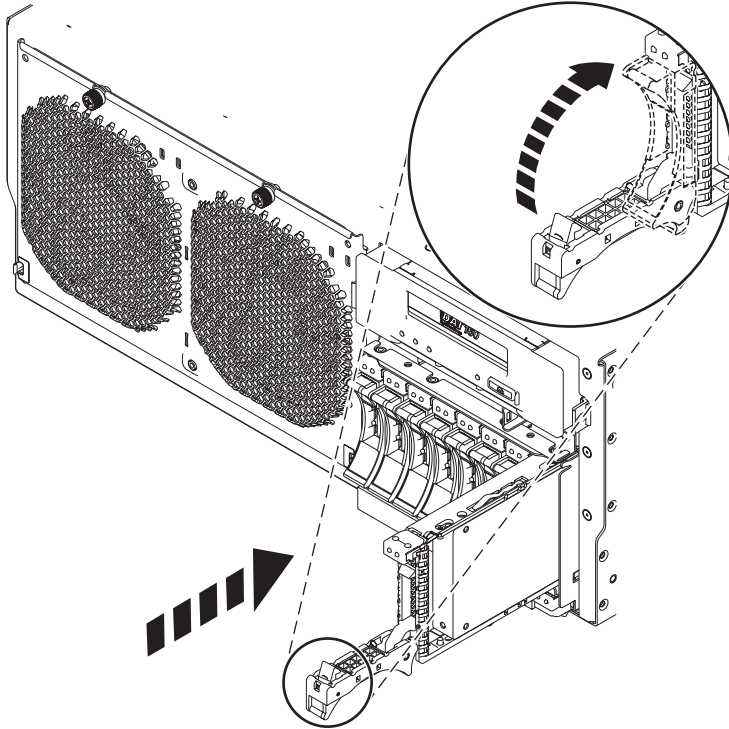

Figure 1. Installing the disk drive in the system
7. When the identify LED turns on solid, slide the drive all the way into the system or an expansion unit, and push the drive handle in until it locks. See Figure 1 on page 8.